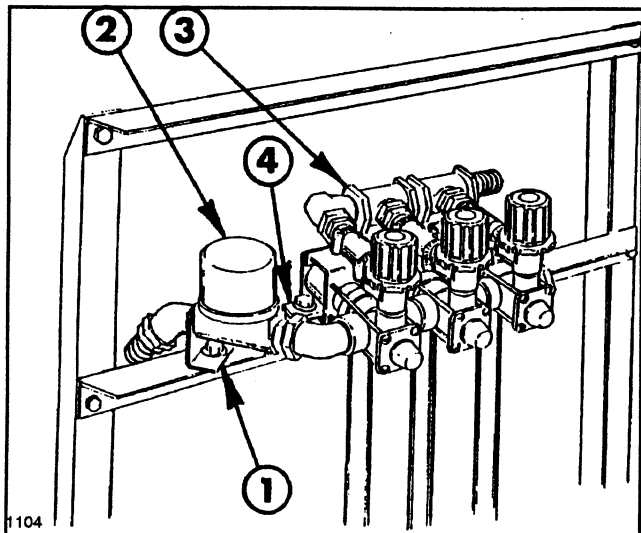

FIG. 15
1. Position the control valve bracket, apply thread sealer and install the 3/4" 45 degree elbow, and the 3/4" x 1" hose barb in the inlet port of the control valve (FIG. 15).
2. Apply sealer and install the 3/4" close nipple and 3/4" 45 degree elbow in the outlet port of the control valve (FIG. 15).
3. Apply sealer and connect control valve assembly to the solenoid assembly by screwing them together. See FIG. 15.
5. Position the complete control valve and solenoid assembly on the lower cross support with the solenoid assembly centered as shown in FIG. 15. Slide the solenoid mounting strap into position and secure with (4) 5/16" x 1" hex hd cap screws, (10) washers, and (4) nuts. Place four washers on top of the mounting strap, two at each end in between the strap and the cross support, and four under the cross support.
6. Attach the control valve bracket to the cross support with a 5/16" x 3/4" cap screw, flat washer, and nut (FIG. 15).
7. Connect the boom feeder hoses to the three hose barbs in the electric solenoids and secure with hose clamps. See FIG. 15.